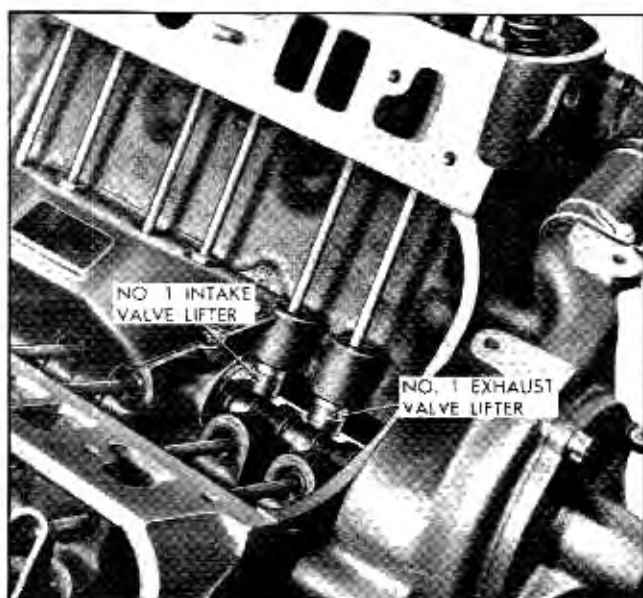

Fig. 6-76 Relationship of Lifters and Cams When Cylinder No. 1 is in Firing Position
a. Turn crankshaft to firing position of number one cylinder (number one exhaust and intake valve lifters both on the base circles of their cams (Fig. 6-76) and timing mark on harmonic balancer indexed with pointer).